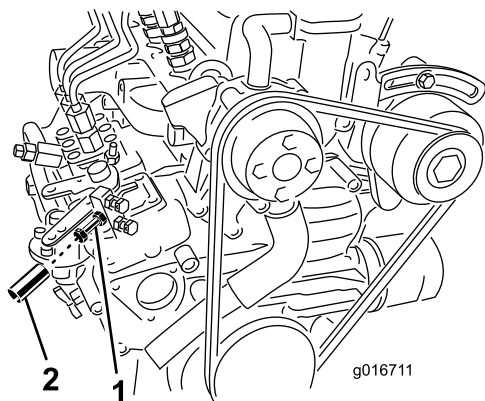

Figure 5
3. Using a tachometer and the throttle-adjustment screw on the engine (Figure 5), set the engine speed to 3,200 rpm maximum, then tighten the jam nut on the adjusting screw.
5. Slide an aluminum tube over the throttle-adjustment screw and jam nut (Figure 5) and crimp it down over the screw so that the screw cannot be adjusted again.